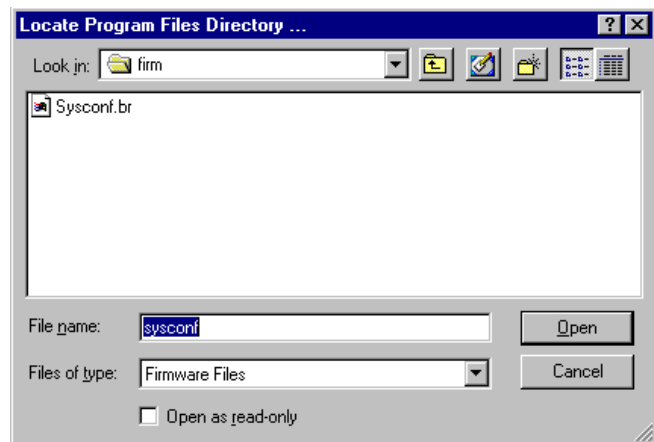

Fig. 13.69
14. The Locate Program Files Directory dialog box appears, displaying the default directory. See Fig. 13.69. Double-click on the file or select it and press the Open button.